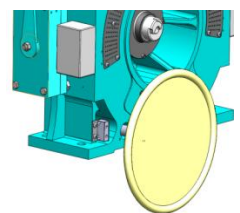

Figure 29
3. Insert the components into the jigger hole, shown as figure 29;